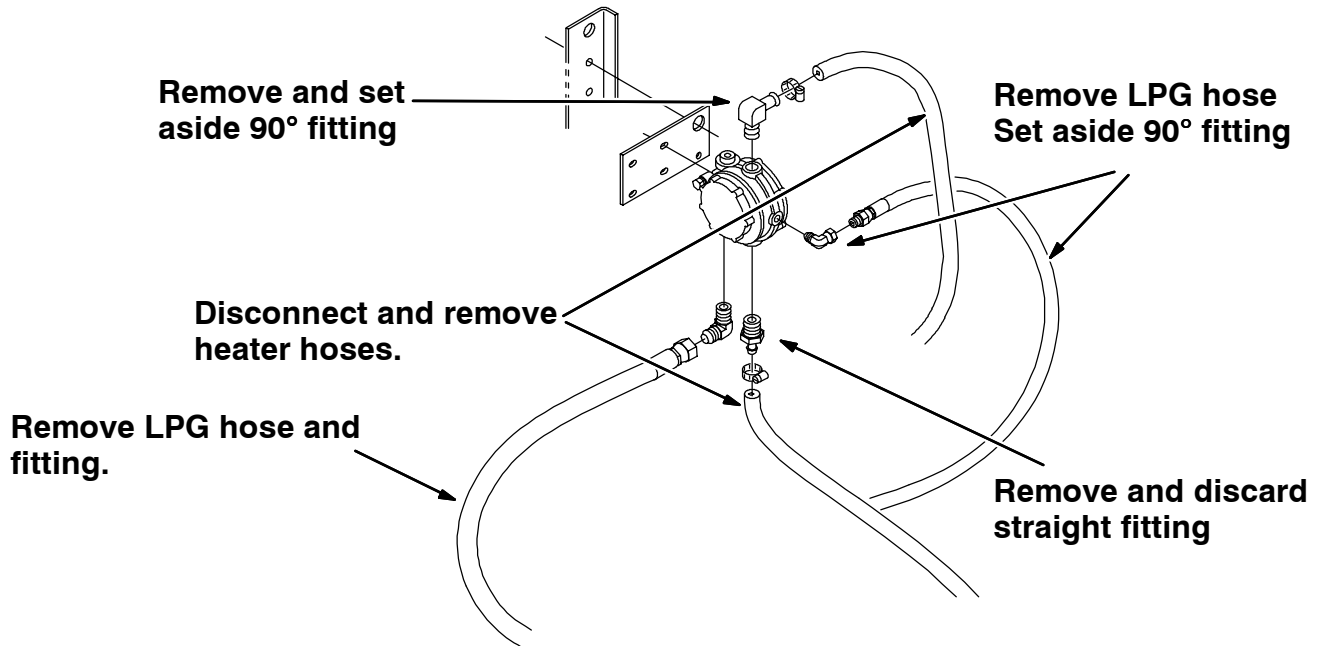

FIG. 1 - RECONFIGURATION, OLD LPG VAPORIZER
(Refer to FIG. 1 thru 10)
6. Unlatch the tank hold-down clamp, and remove the LPG fuel tank from the machine and store the tank in a designated, safe area. (Refer to FIG. 1)
(Refer to FIG. 1, 2, 3 and 9)
3. Disconnect and remove the LPG hose and 90° fitting (11442-1) from the side of the vaporizer. Follow the hose over to the fuel lockoff filter. Disconnect the other end of the hose and 45° fitting from the fuel lockoff filter. Discard the LPG hose. Set the 90° fitting (11442-1) aside. (Refer to FIG. 1 and 9)
4. Disconnect the bottom LPG hose from the LPG vaporizer. Disconnect and remove the 90° fitting from the bottom of the vaporizer. Disconnect the other end of the LPG hose from the carburetor. Remove and discard the LPG hose and fitting. (Refer to FIG. 1 and 9)
5. Disconnect and remove the two heater hoses from the top and the bottom of the vaporizer. Remove the 90° fitting and hose clamps from the top of the vaporizer and set it aside. Remove and discard the straight fitting for the heater hose on the bottom of the vaporizer. (Refer to FIG. 1 and 9)